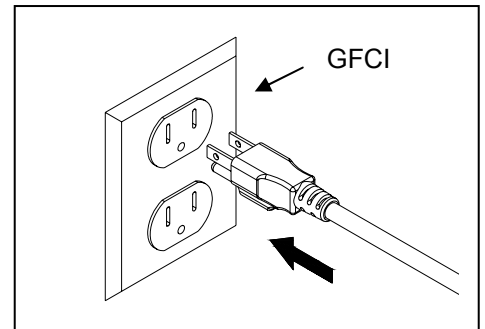

Fig. 2
2. Place the pump into the water and connect to a proper power source. Fig. 2